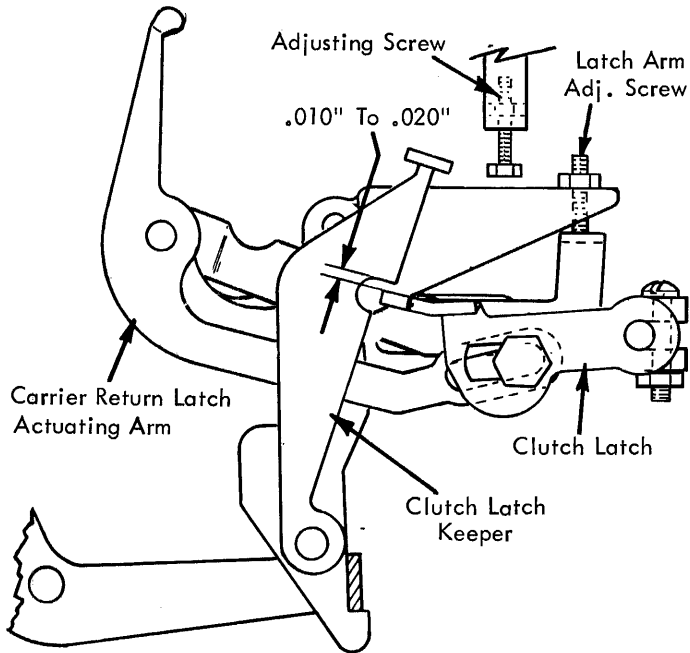

FIGURE 205.1 Clutch Latch Overthrow Adjustment (Late Style)
- 3.1 Clutch Latch Overthrow Late Style - Manually operate the carrier return cam to the high point while observing the motion of the clutch latch. It should overthrow the latching surface of the keeper by .010" to .020" (Fig. 205.1). Adjust the carrier return latch arm adjusting screw to obtain this condition.